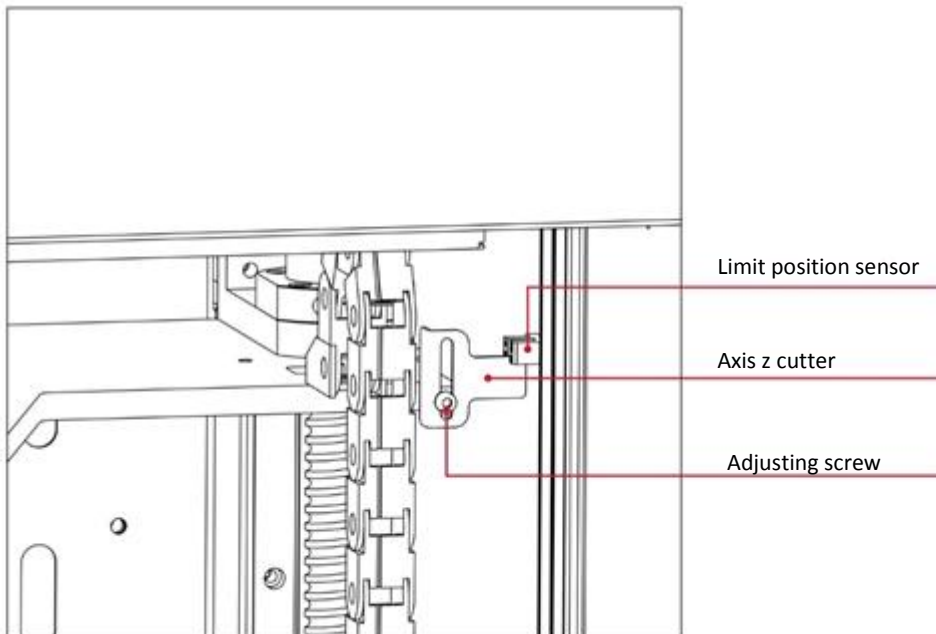

Fig. 1 End position sensor and Z axis cutter, located on the right hand side of the work platform
**NOTE:** Observe the movement of all axes carefully. When the Z axis reaches the end position sensor (Fig. 1) and stops, use a feeler gage to check the distance between the nozzle and the heatbed. It should be approx. 0.8 to 1.5 mm. A longer distance can lead to interruption of heatbed scanning and an error will be displayed. If the distance is greater than 1.5 mm, adjust the distance manually. **To do this, loosen the adjustment screw (Fig. 1) and adjust the distance manually. Raising the Z axis cutter (Fig. 1) will increase the distance between the nozzle and the heatbed, lowering it brings the nozzle closer to the heatbed. Once set, slightly tighten the adjustment screw (fig.1) and check the nozzle position using a feeler gauge, after selecting the “Home Z” command, available from the Manual Controls menu.**